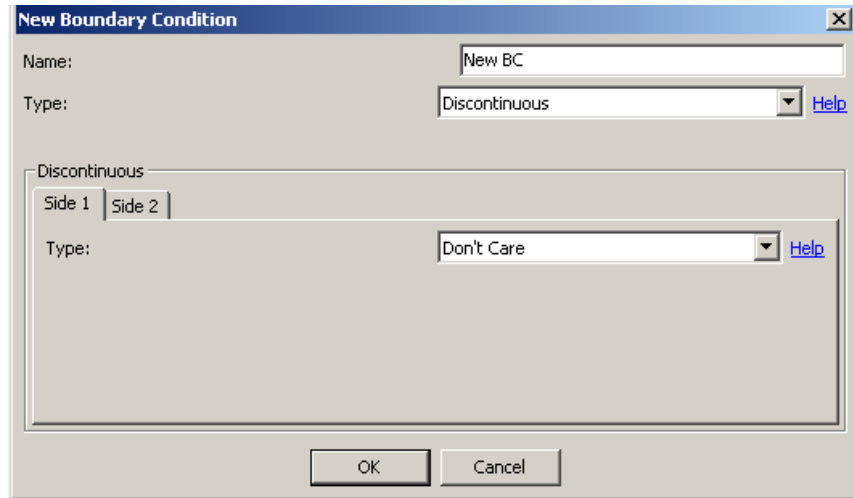

Figure 6.35 Discontinuous BC (Don't Care)
to be on the positive side (+) of the normal and *Side 2* on the negative side (-). That is, always the element normal points from *Side 2* to *Side 1*. The possible side boundary conditions allowed in *Coustyx* are listed below. (Figure 6.35)
6.6.10.1. Don't care This Boundary Condition is applied on the side of the boundary which doesn't come in contact with the fluid medium or on the side the user is not interested in. Again, consider the example of a vibrating surface which encloses a volume and the primary interest is in the exterior sound field. The boundary condition on the interior side of the mesh doesn't affect the exterior solution. In this case the user can apply *Don't care* BC on the interior side of the mesh and *Coustyx* will automatically apply a suitable boundary condition on the interior. (Figure 6.35)